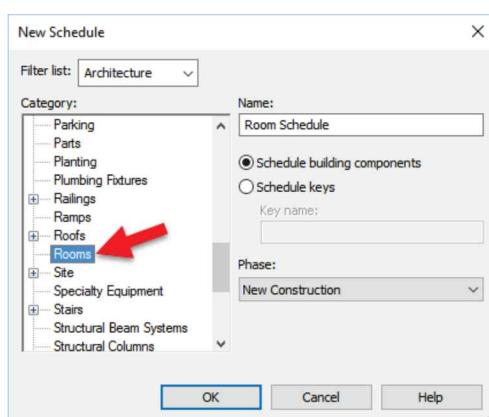

FIGURE 13-3.1 New Schedule dialog
3. Select **Rooms** under *Category* and then click **OK** (Figure 13-3.1).